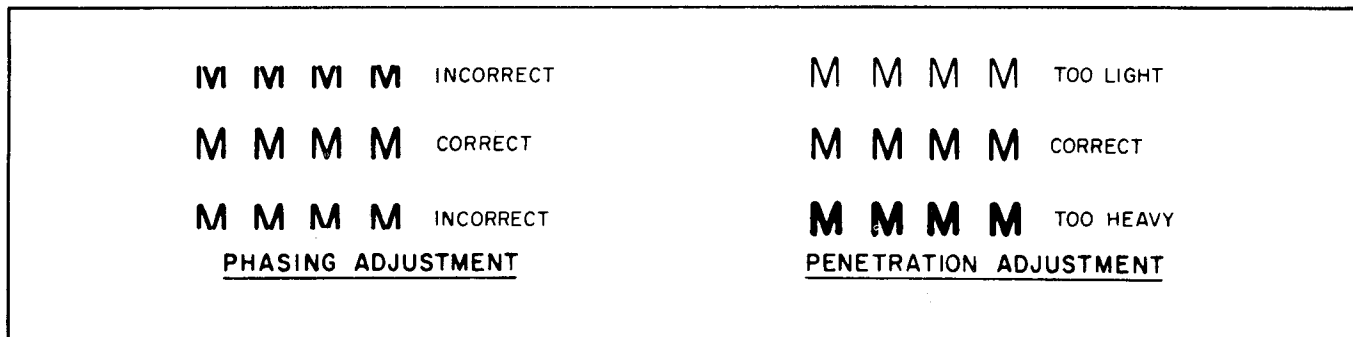

Figure 4-1. Pre-Operational Printout Adjustments
5. Momentarily press TEST PRINT switch on Operator's Control Panel and adjust penetration and phasing controls on the printer (Section 2-1) for the desired density of printing (see Figure 4-1 below).